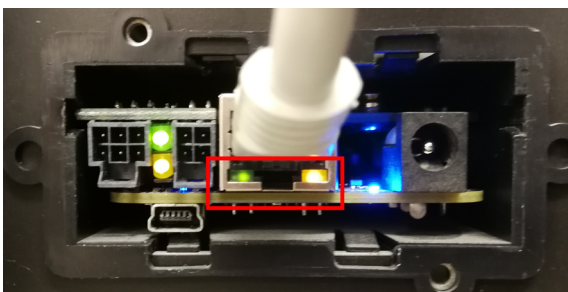

Fig. 5. Connection of the RJ-45 cable
3. Connect one end of an RJ45 cable to the card and the other end to the Ethernet socket. The RJ45 port lights on the card should light up. See the red box in Fig. 5.